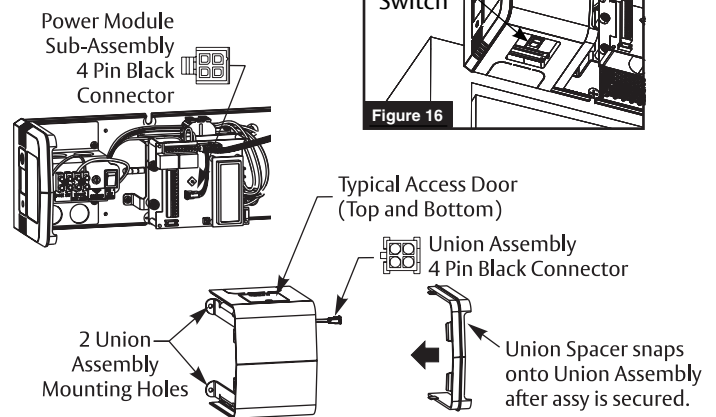

Figure 17
- Snap union spacer onto union assembly opposite end cap and secure with two (2) #6-32 x 1/4" Phillips pan head screws. (Figure 17)
- Secure union assembly to backplate using two (2) #8-32 x 5/16" Phillips pan head screws. (Figure 17)
- Connect 4-pin black square connector from power module sub-assembly to 4-pin black connector from union assembly. (Figure 17)